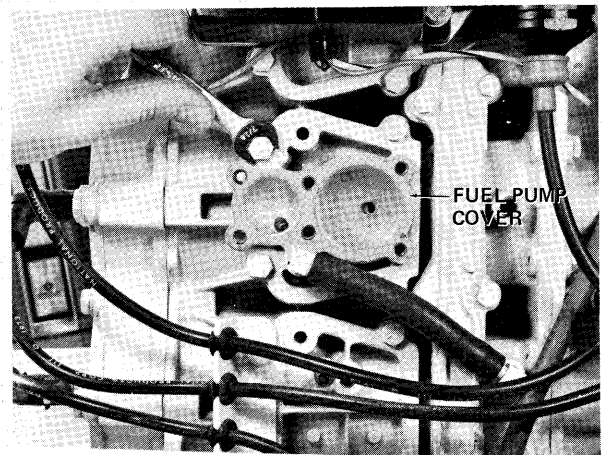

Figure 5—Removing Fuel Pump Cover
- C. Remove four (4) screws securing fuel pump cover to powerhead and remove cover and gasket. See figure 5.